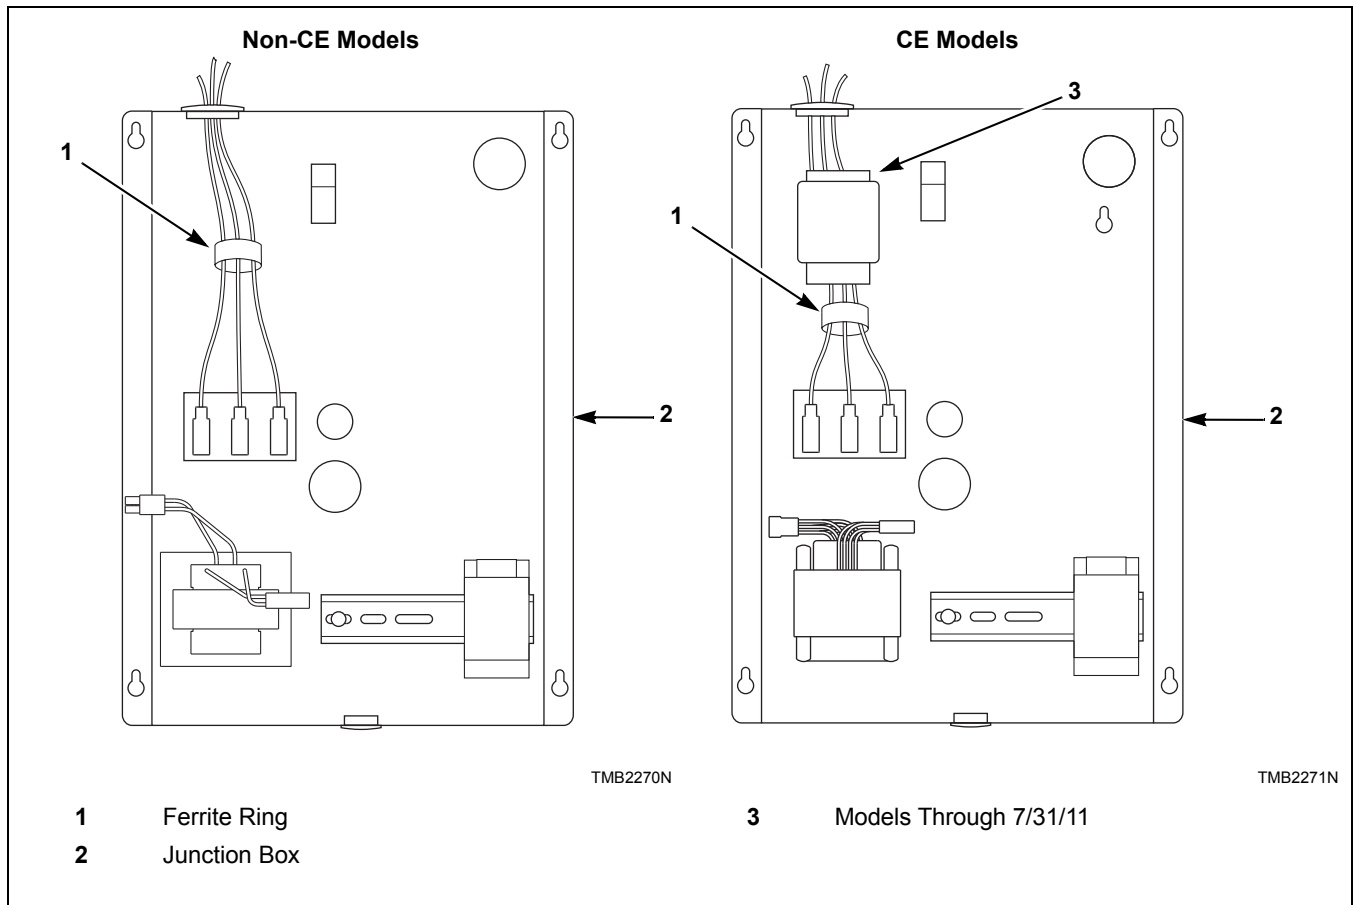

Figure 25
2. Snap the ferrite ring closed over all the service leads inside of the contactor box as shown. It is important that the ferrite ring be installed inside the contactor box. Refer to *Figure 25*. Do not install the ferrite outside of the box or other area. Make sure that service leads are in the center of the ferrite before closing the ring so as not to pinch or damage leads.